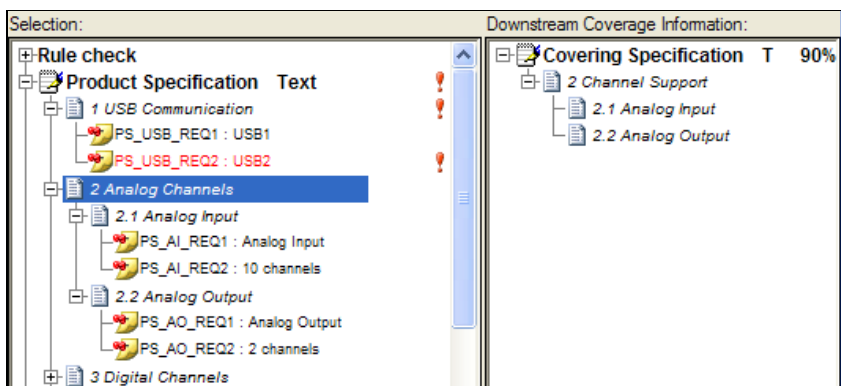

Figure 4-4. 2 Analog Channels Section Selected in Coverage Analysis View
- Click the **2 Analog Channels** section as shown in Figure 4-4. The child elements of the Analog Channels section contain four requirements: PS_AI_REQ1, PS_AI_REQ2, PS_AO_REQ1, and PS_AO_REQ2. The Downstream Coverage Information column displays both the 2.1 Analog Input and the 2.2 Analog Output sections as covering elements. In the covering document, the 2.1 Analog Input section contains references to the PS_AI_REQ1 and PS_AI_REQ2 requirements and the 2.2 Analog Output section contains references to the PS_AO_REQ1, and PS_AO_REQ2 requirements.